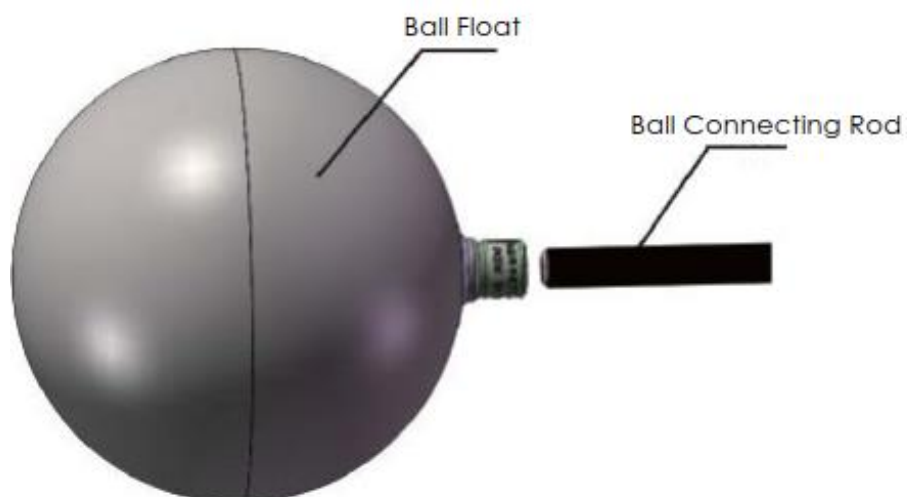

Figure 7 Ball Float Installation
6.3.2 For the installation of the 91-type large rotation angle float ball, screw the ball connection rod into the threaded hole at the front end of the swing arm, and tighten the ring groove at the end of the top wire of the top wire, as shown in Figure 7.